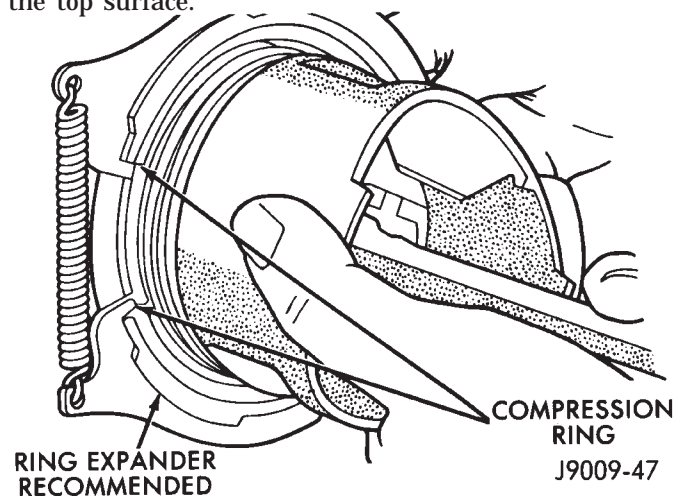

Fig. 16 Compression Ring Installation
(10) Using a ring installer, install the top ring with the chamfer facing up (Fig. 16). The dot will be facing up.